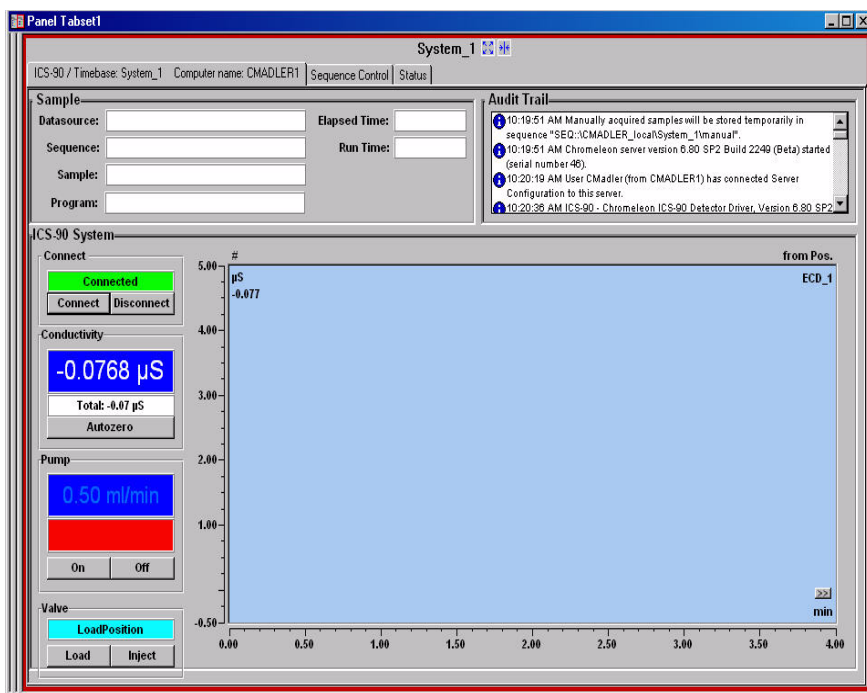

Figure B-11. ICS-90 Control Panel on the Panel Tabset
3. To display the ICS-90 (or ICS-90A) Control panel (see Figure B-11), select the **ICS-90** tab on the panel tabset. (The ICS-90A Control panel includes a **Wellness Panel** button; otherwise, the panels are identical.)